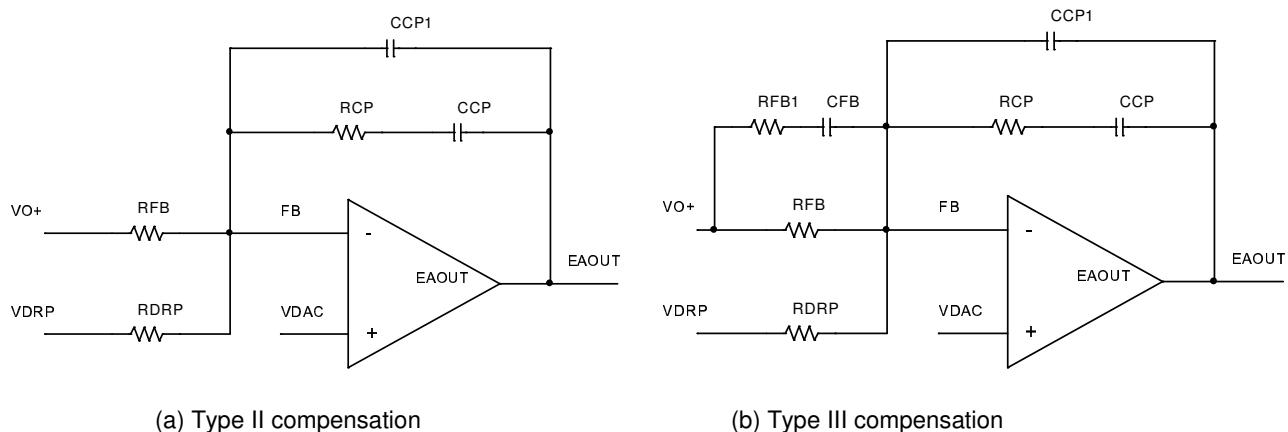

Figure 18. Voltage loop compensation network
Resistors  $R_{FB}$  and  $R_{DRP}$  are chosen according to Equations (15) and (16), and the selection of compensation types depends on the capacitors used. For the applications using Electrolytic, Polymer or AL-Polymer capacitors, type II compensation shown in Figure 18 (a) is usually enough. While for the applications with only ceramic capacitors, type III compensation shown in Figure 18 (b) is preferred.
All ceramic output capacitors are used in the design, type III compensation as shown in Figure 18(b) is used here. Choose the desired crossover frequency  $f_c = 80$  kHz and determine  $R_{CP}$  and  $C_{CP}$ :